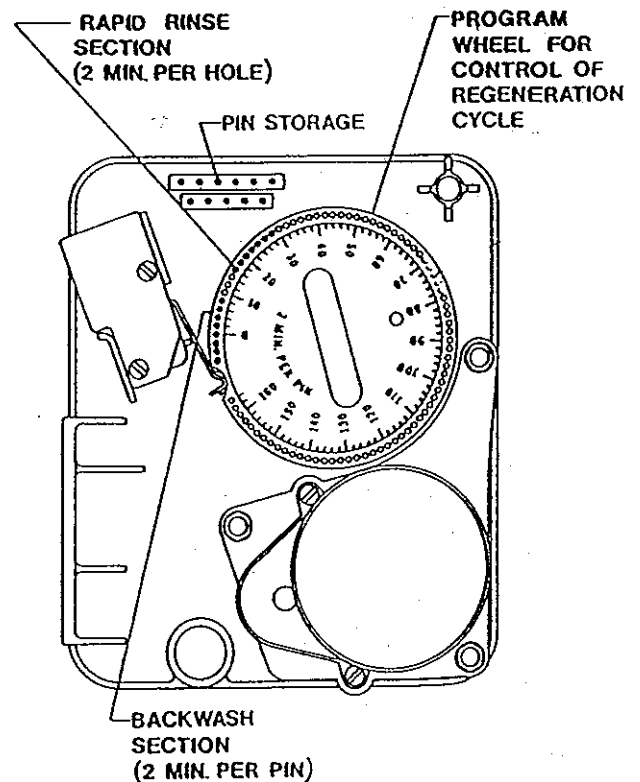

Figure 2
- A. With timer and valve in "Service" position, slowly rotate the regeneration knob clockwise until the motor runs and drive shaft goes into backwash position. You may wish to swing open the timer so that you can see which pin or hole section is engaging the outer microswitch. (Refer to Figure 2.) This determines which "Mode" the control valve is in.
**NOTE :** If charging Manganese Greensand or MTM™ media, run water to drain until  $KMnO_4$  is evident in drain line effluent. Position valve to service mode and allow to set for one (1) hour before proceeding.
- C. Slowly rotate the regeneration knob clockwise on the first unit until the motor runs and drive shaft goes into backwash position. You may wish to swing open the timer so that you can see which pin or hole section is engaging the outer microswitch. (Refer to Figure 2.) This determines which **mode** the control valve is in.
**NOTE :** If charging Manganese Greensand or MTM™ media, run water to drain until  $KMNO_4$  is evident in drain line effluent. Position valve to the service mode and allow to set for one (1) hour before proceeding.